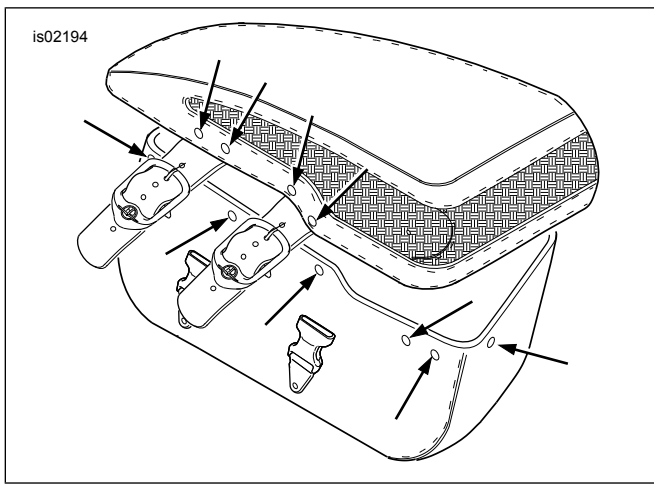

Figure 1. Rivet Positions in Saddlebag Lid and Base
1. See Figure 1. Using a 3/16 in. diameter drill bit, carefully drill out four rivets retaining buckle straps to saddlebag lid. Note front and rear strap, and set them aside.
3. See Figure 1. Using a 1/8 in. diameter drill bit, carefully drill six pilot holes in saddlebag base rim, using inner plate as a template.